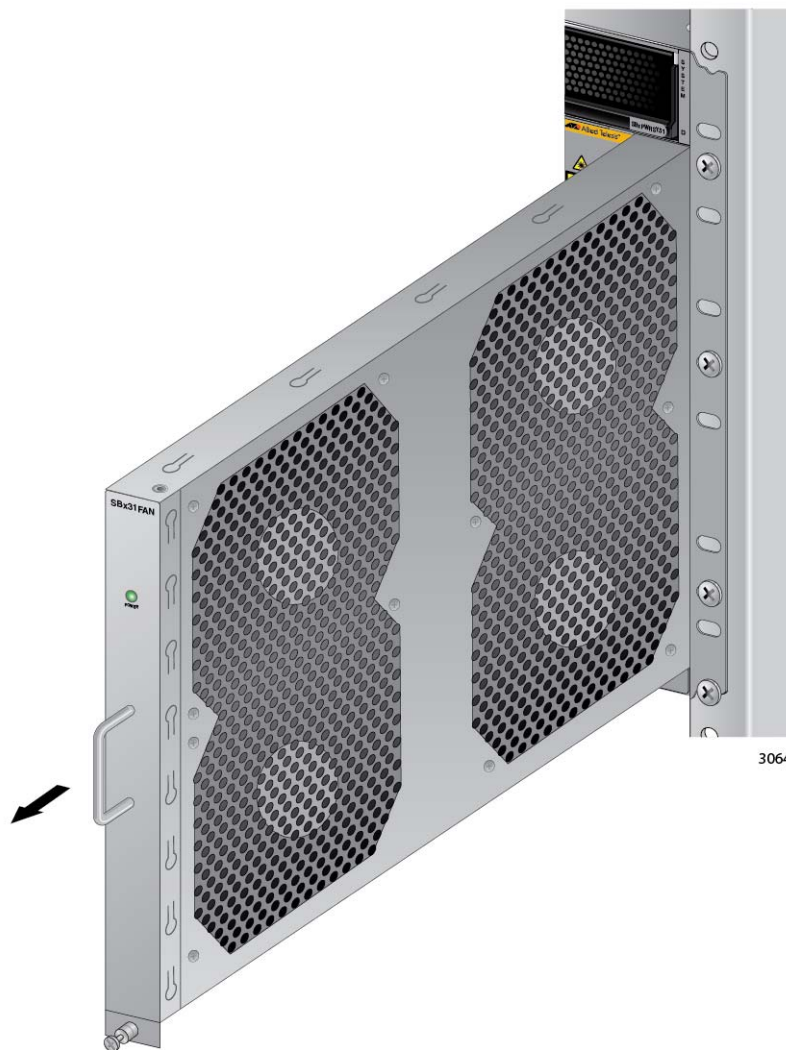

Figure 180. Removing the AT-SBxFAN12 Fan Module from the Chassis
6. After the fans have stopped, slide the module from the chassis. Refer to Figure 180 on page 284.